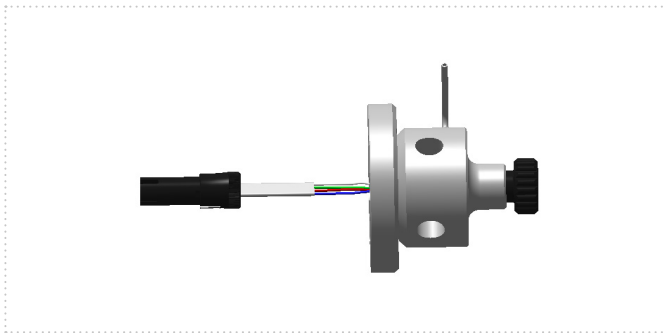

Fig. 1: Preassembled pressure sensor G2705CX81
- Remove the 2 hexagon socket screws ①.
- Pull the pressure sensor and the connected cable out of the housing (see Figure 1).